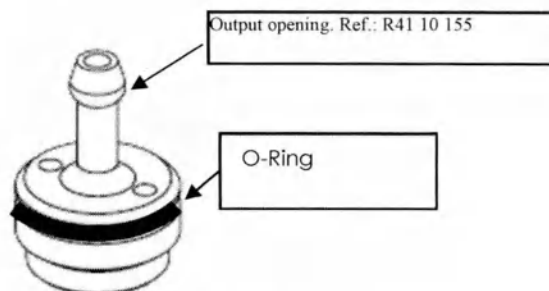

Figure 4: O-Ring installation
2. Check and make sure the O-ring is installed on the output opening barb as shown in Figure 4.